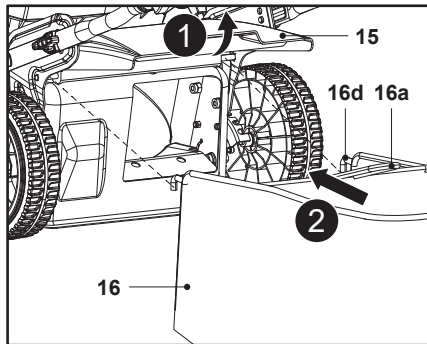

Fig. 6
3. Open the rear deflector guard (15) and hold in place (Fig. 6, step 1).
4. Carry the grass catcher (16) by its carry handle (16a).
5. Align the two catcher hooks (16d) with the rod and hang the grass catcher (16) onto it (Fig. 6, step 2).
6. Carefully release the rear deflector guard (15) afterward.